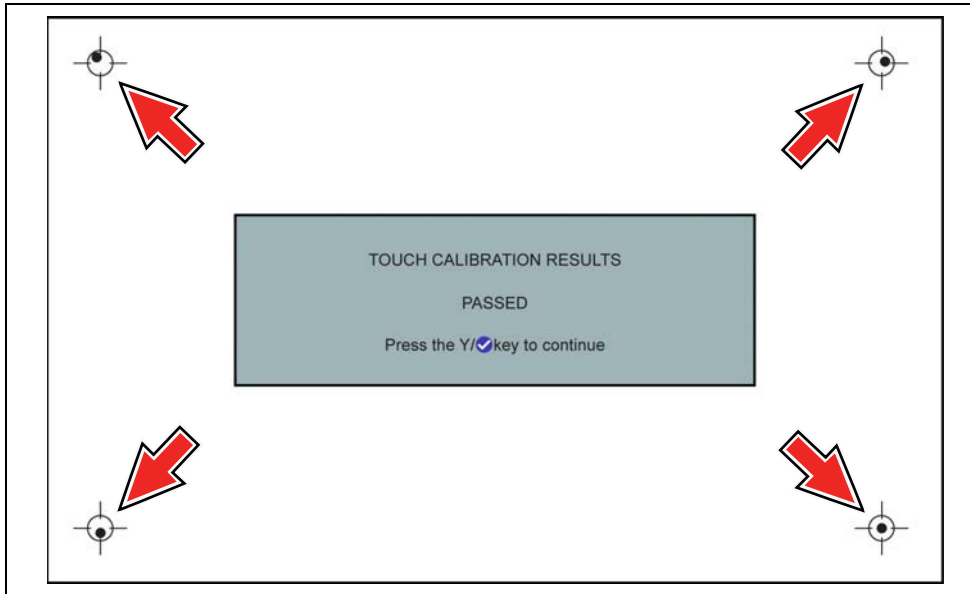

Figure 6-8 Touch screen calibration - Passed
- If the calibration is successful, the “Touch Calibration Results - Passed” screen is displayed (*Figure 6-8*). Press the **Y** button to complete the process and return to the Display menu.
The results screen (*Figure 6-8*) shows the entered calibration of each indicator. Ideal calibration would be to select each indicator exactly in the center, however selection inside the displayed circle is acceptable. If selecting the center is difficult using your finger, use a touch screen stylus (not included).